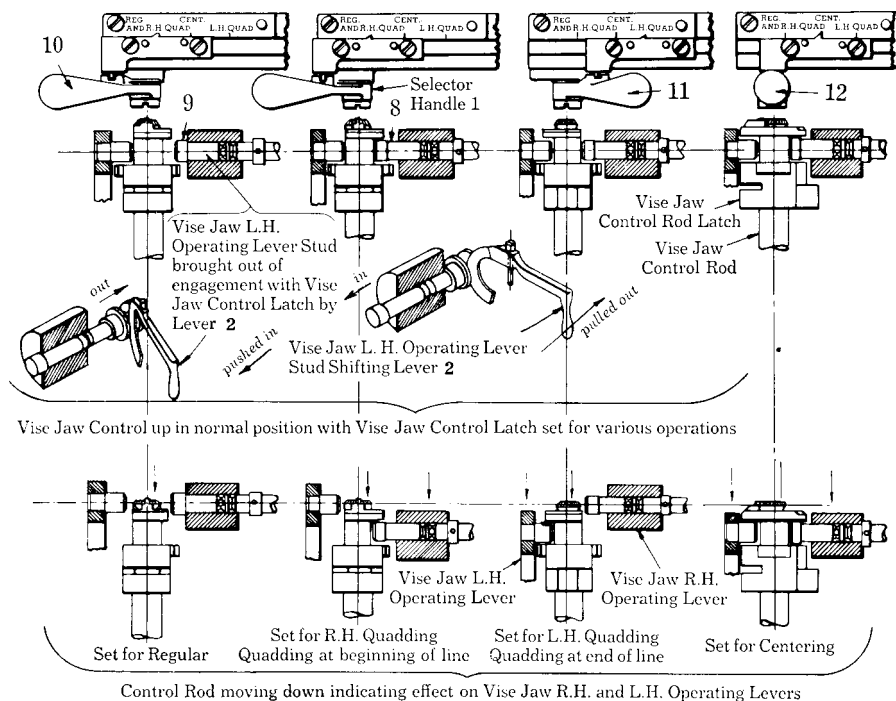

FIG. 2-32. View showing position of the vise jaw control rod latch with respect to position of selector handle.
Shift the selector handle 1, Fig. 2-32, to the position marked "Reg. and R.H. Quad." Pull out the lever 2, Fig. 2-32, which engages the left-hand vise jaw to the control rod as shown at 8, Fig. 2-32.
*Quadding to the Left*—Follow exactly the same instructions as outlined for right-hand quadding. Shift the selector handle to the "L.H. Quad." position, as shown at 11, Fig. 2-32. The delivery slide finger is automatic in its function and it eliminates the necessity of raising and lowering finger to prevent striking the left-hand vise jaw when centering or quadding.
*Centering*—Follow exactly the same instructions as outlined for right-hand quadding. Shift the selector handle to the position marked "Cent.," as shown at 12, Fig. 2-32.
*Operating as a Regular Linotype Machine*—To use the machine normally, as a Linotype not equipped with the Self-Quadder, shift the selector handle to the position marked "Reg. and R.H. Quad.," as shown at 10, Fig. 2-32. Push in the lever 2, Fig. 1-32, as shown at 9, Fig. 2-32. Make all settings that would be necessary on a regular machine before assembling a line and casting a slug.
**Vise Jaw Control**—The control rod 3, Fig. 1-32, is properly adjusted at the factory for correct height. If this control rod is set too high, the selector handle will not shift back and forth easily, and the right-hand vise jaw will not have sufficient end play. If the control rod is set too low, the selector handle will not operate the control rod latch, Fig. 2-32.